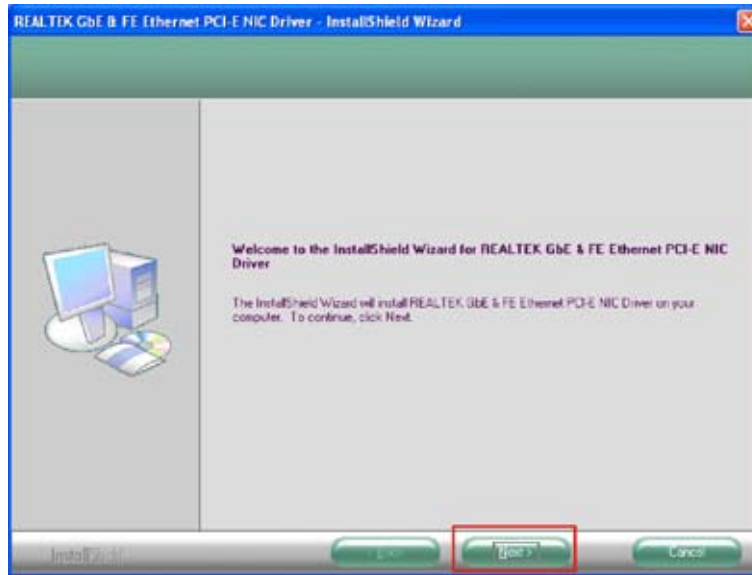

Figure 7-16: LAN Driver Welcome Screen
Step 38: The **Welcome** screen in Figure 7-16 appears.